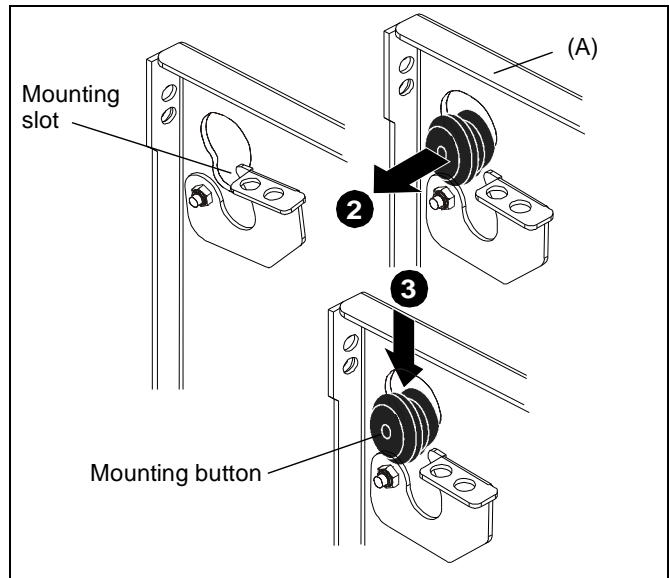
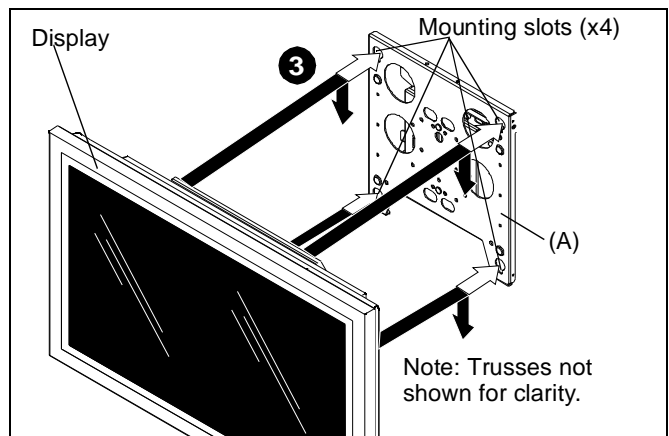

Figure 10
Figure 11
- Attach interface bracket (G) to display using the instructions included with the interface bracket kit.
- Lift and maneuver display such that all mounting buttons fit into mounting slots on TPS faceplate (A). (See Figure 10)
- Lower display firmly into place. Ensure each button has fully seated in its mounting slot. (See Figure 10) and (See Figure 11)